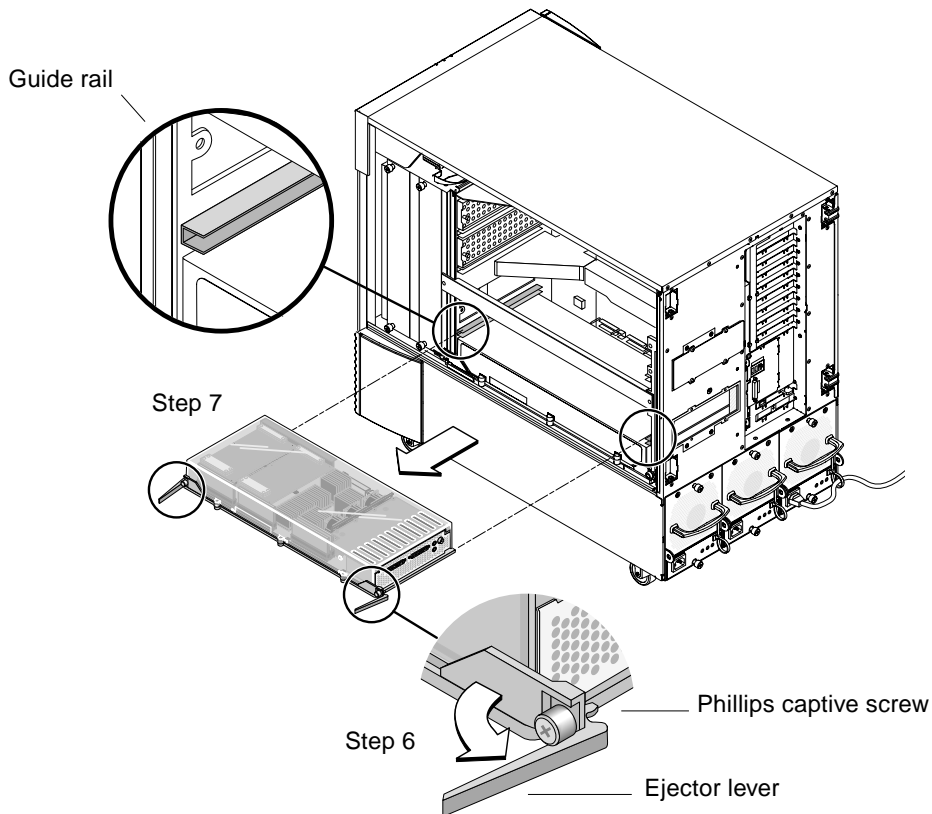

FIGURE 4-9 Removing the Sun XVR-4000 Graphics Accelerator
4. **Using a No. 2 Phillips screwdriver, loosen the right-side captive screw and then the left-side captive screw (FIGURE 4-9).**
6. **Pull the graphics board ejector levers until they are rotated out to 90 degrees (FIGURE 4-9).**